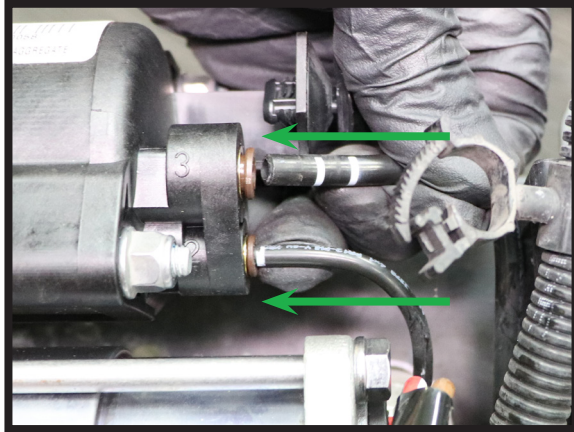

FIGURE 28
5. INSERT THE EXISTING AIR LINES IN TO THE NEW COMPRESSOR. PRESS IN UNTIL LINES ARE FIRMLY SNUG IN THE COMPRESSOR. (FIGURES 28, 29)